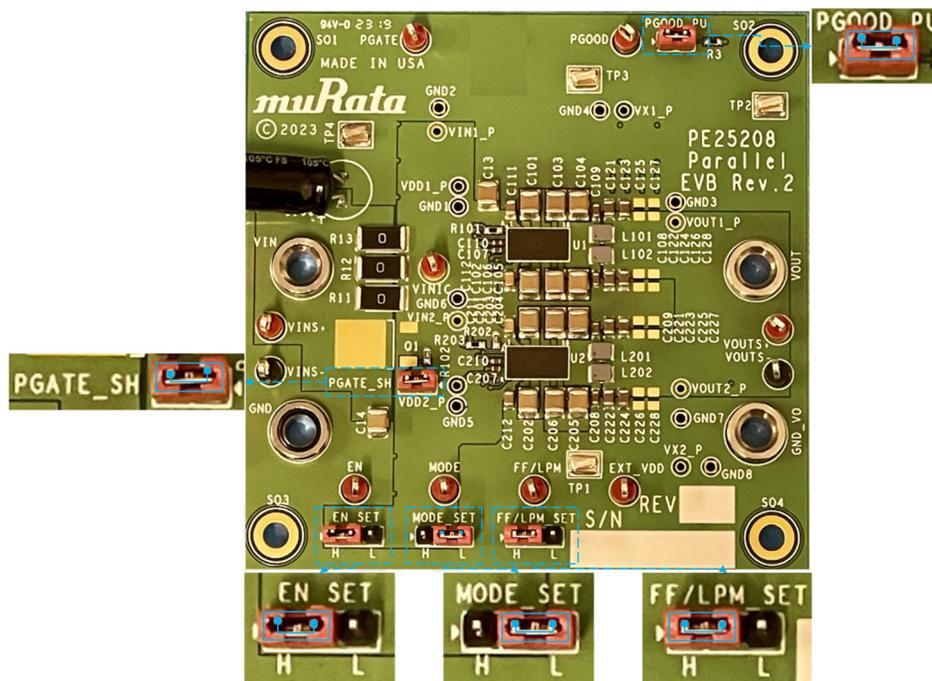

Figure 8. Jumper Installation of the PE25208 Parallel EVK PCB Headers
1. Before powering up the parallel EVK, install the jumpers on the PGATE\_SH and PGOOD\_PU headers as shown in Figure 8, then configure the EN\_SET, MODE\_SET, and FF/LPM\_SET headers by fitting jumpers in the recommended positions for quick evaluation as listed in Table 3. For example, Figure 8 shows the EN\_SET, MODE\_SET, and FF/LPM headers set in the enable, divide-by-3 (DIV3) mode and fixed-frequency (FF) mode configuration, respectively.